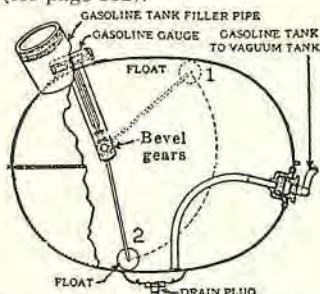

Fig. 5. Main gasoline tank, showing operation of gasoline gauge float. See Index, "Gasoline tank capacities."
The gasoline tank gauge most used is the float type. As the tank is filled the float rises until the tank is filled (position 1, Fig. 5); position when empty is as at (2). See also page 649.